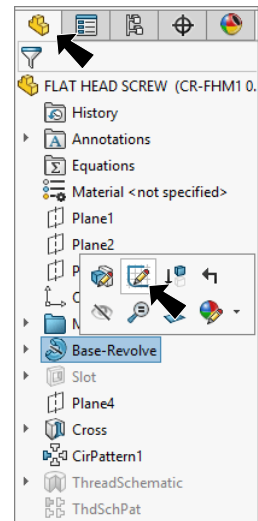

Fig. 10
Step 1. Click Feature Manager design tree tab  at the top of the Configuration Manager, **Fig. 10**.
Step 2. Click **Base-Revolve** in the Feature Manager and click **Edit Sketch**  on the context toolbar, **Fig. 10**.